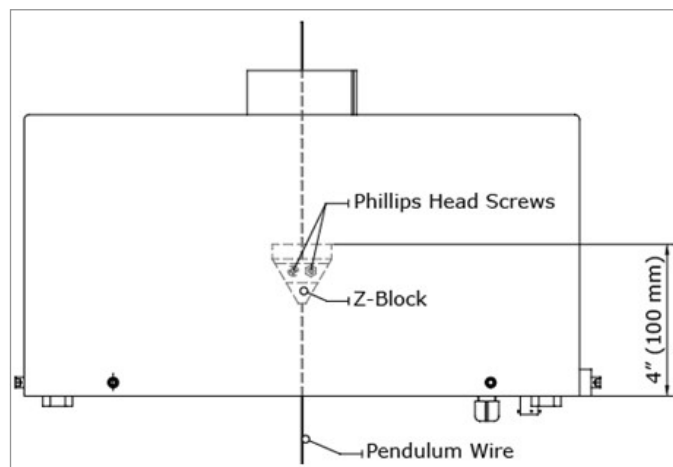

FIGURE 25: 3D Readout, Positioning of the Z-Block
- **3D Readouts:** Position the Z-block on the pendulum wire at a height of approximately 100 mm (4") above the pendulum table. Using a Phillips head screwdriver, tighten the two screws in the Z-block so that it clamps onto the pendulum wire. Figure 25 shows the positioning of the Z-block. With the readout above the Z-block, slide the wire through the slot in the readout.